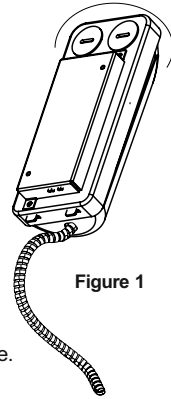
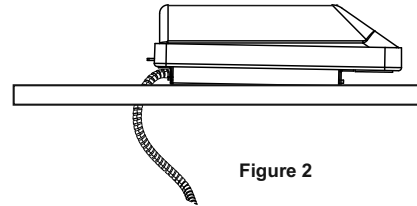

Figure 1
Figure 2
**Step 2.** Insert junction box (containing driver) into the ceiling opening and secure by screw(s) on the ceiling.(Fig. 1). Figure 2 shows how the junction box should rest on the ceiling when fully inserted.